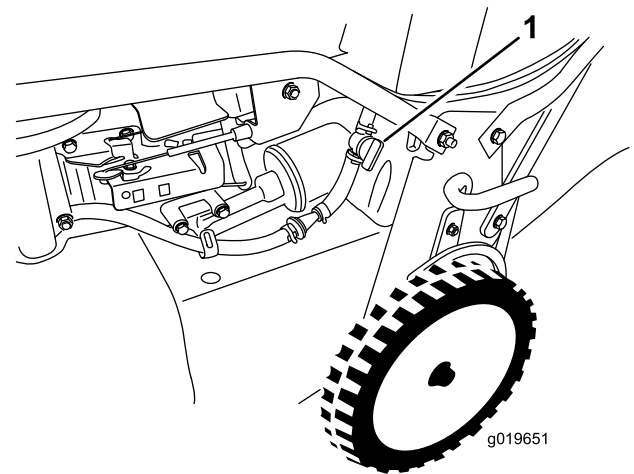

Figure 18
2. Open the fuel-shutoff valve (Figure 18).